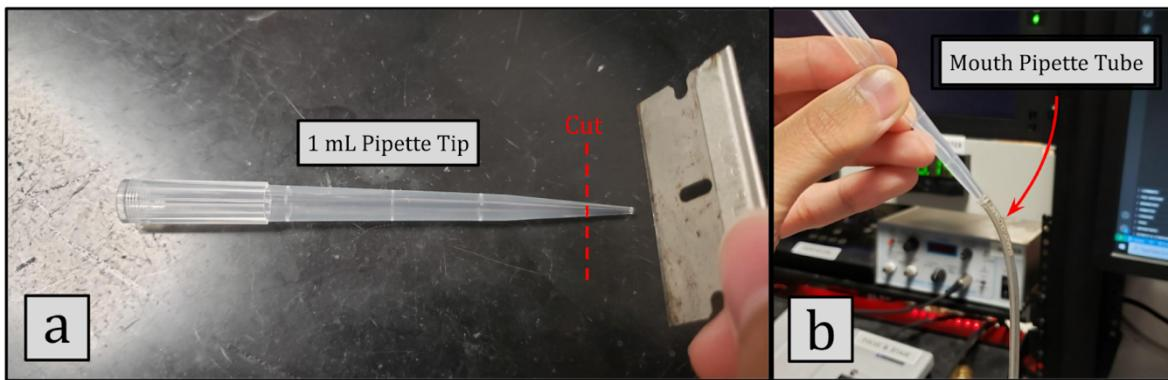

Figure 13: Setting up the mouth pipette. a/ The approximate cut location on the 1 mL Pipette tip. b/ The mouth pipette connected to the breathing tube.
- Cut a 1 mL pipette (plastic) at the tip with a razor blade then attach it to the mouth pipette tube. Refer to Figure 13.